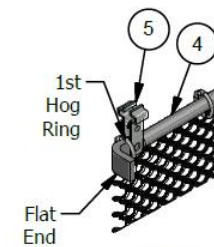

Figure 5c
3. With the Panel installed as shown, hook the 1st Mesh Hog Ring over the 'flat end' of the Rod ④. It will rest against the End Stop ⑤ and keep the edge of the Mesh tight to the side of the Fireplace Opening. (Figure 5c)